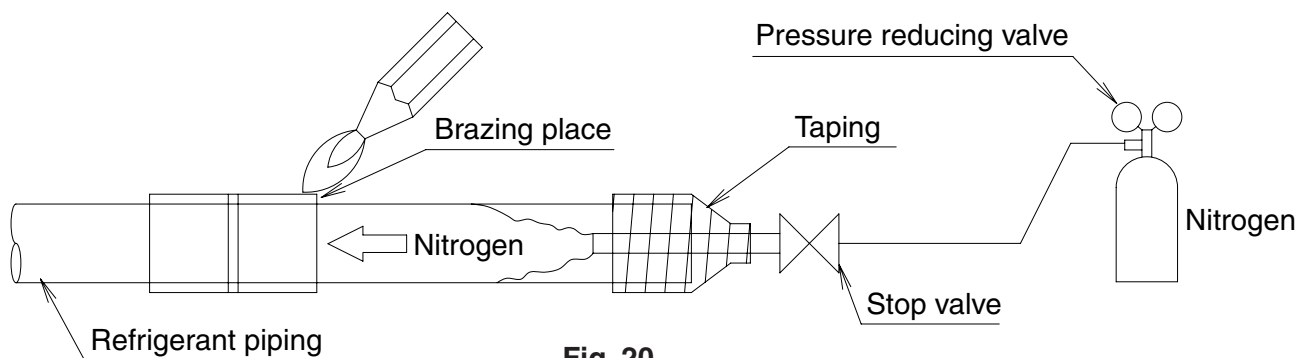

Fig. 20
- * Before brazing refrigerant piping, have nitrogen flow through the refrigerant piping and substitute air with nitrogen. Then, carry out brazing (NOTE 2). **(Refer to Fig. 20)** After all the brazing works are finished, carry out flare connection with the indoor unit.